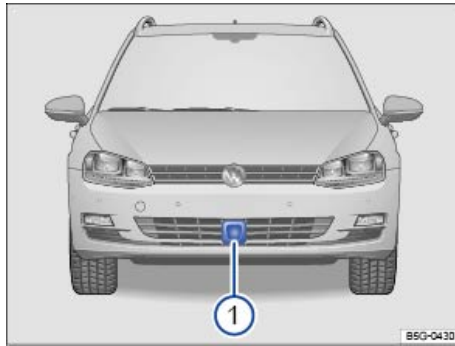

Fig. 155 In the front bumper: Radar sensor.
A radar sensor mounted in the front bumper monitors traffic ⇒ fig. 155 (1) and can detect vehicles traveling ahead up to a distance of about 130 yards (120 m).